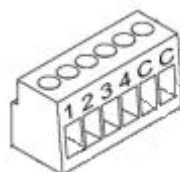

Figure 2. Input / output terminal block
- **Prog./Test Button (2):** a short press on this button sets the device into the programming mode, making the associated LED (3) light in red. If this button is held at the same time of applying bus power to the device, BIN will enter the Safe Mode. In such case, the LED will intermit in red.
- **Slots for the input / output lines:** slot for the insertion of the terminal block with cables (see Figure 2) that permits BIN interfacing with the different input and output elements.